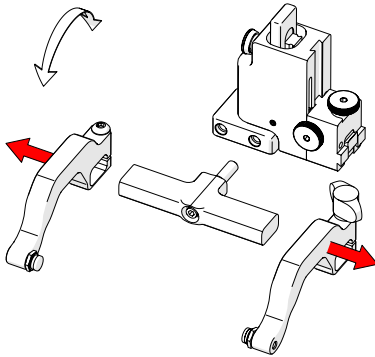

Fig. 136 - Remove probe holder arms
3. Loosen the arm clamp screw and probe holder arm adjustment knob allowing removal of the probe holder arms (Fig. 136).